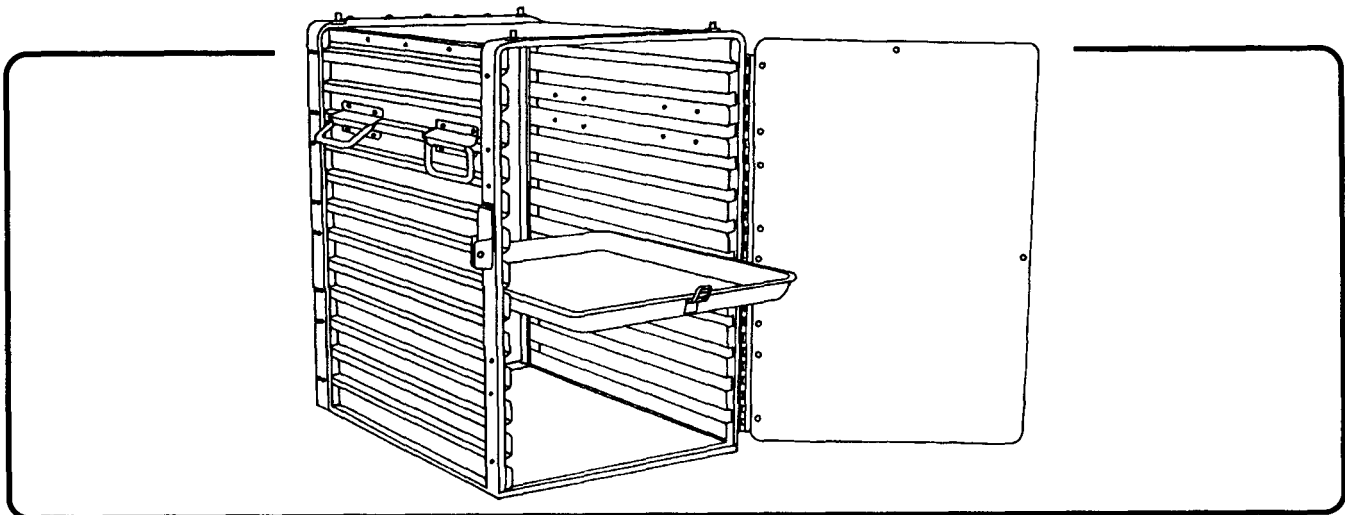

Figure 10-8. Food storage cabinet
**Food storage cabinets.** These cabinets (Figure 10-8) are used mainly to store food and to maintain pastries and desserts.